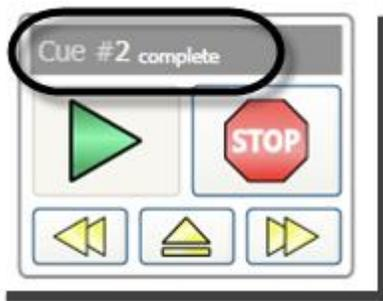

Figure 336
3. The **Cue Controller** in the **Stagehand Editing Pane** on your screen updates its status text (Figure 336).